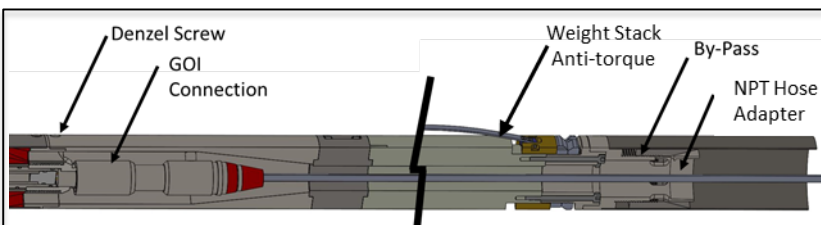

Fig. 2: Sonde Details
- Sonde is assembled to the hose in multiple steps. First the NPT sonde adapter is screwed on to the hose fitting. This mates to the anti-torque section with "Denzel" screws. The air diverter screen slides up the hose out of the way for installation and is later secured with set-screws. The GOI connector is installed by removing adapter from lower sonde. The adapter and anti-torque/weight stack can then be re-assembled (Fig2).